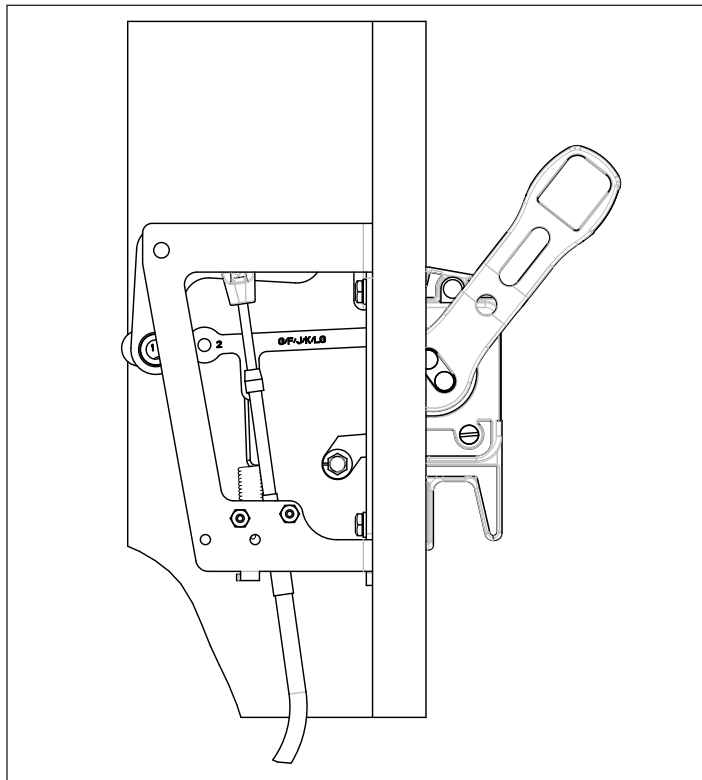

Figure 6. Assembly of Spring to Toggle Mechanism.
5. Connect the long end of the spring through hole in handle actuator link. Hook the shorter end of the spring into the tab on the lower portion of the toggle mechanism (see Figure 6).